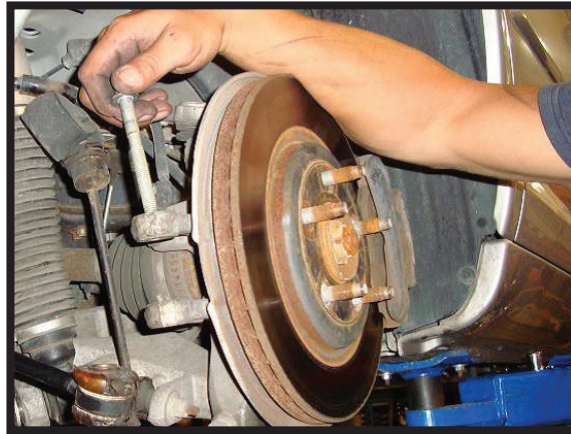

FIGURE 17
6. DETACH THE REAR TIE ROD. (FIGURE 17)